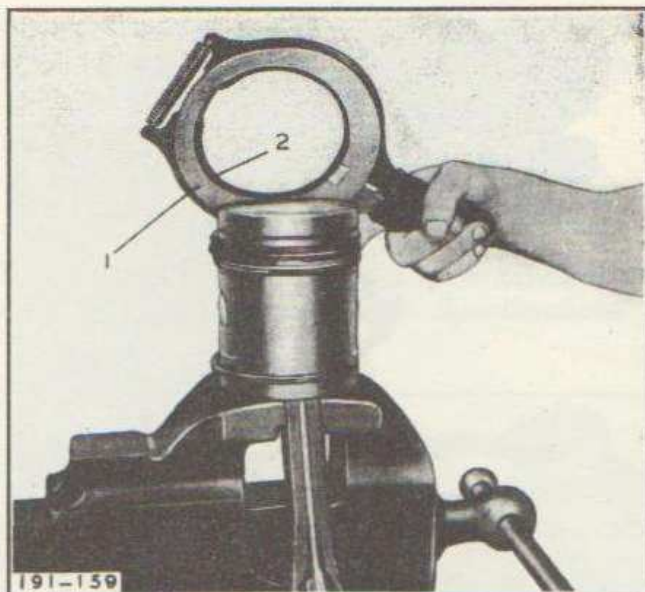

Fig. 124—View Showing Use of Ring Installer Tool
When either used or new piston rings (2) are installed, it is recommended that a ring installer (1), a ring expander with limited motion, be used. Rings may be deformed or broken if such a tool is not used, see Figure 124.